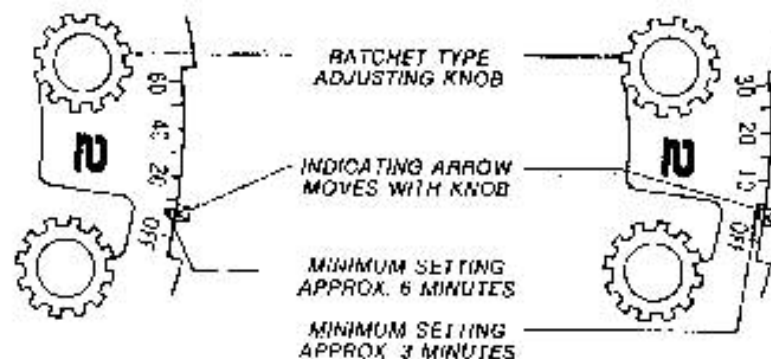

Fig. 9
5. Adjust each station TIME control to the 5 minute mark on the RC-1230 or the 10 minute mark on the RC-1260. See Fig. 9.